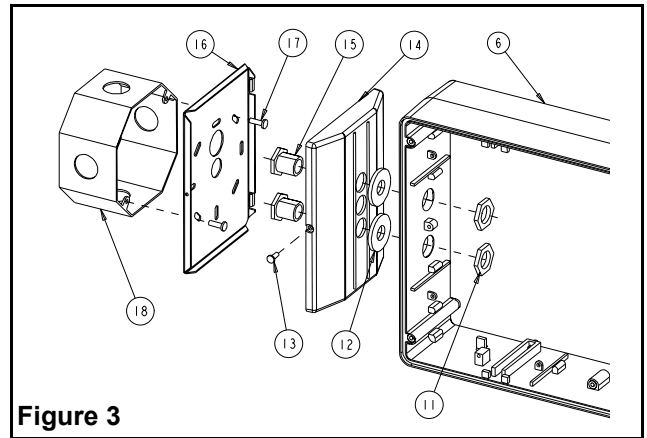

Figure 3
- h. Determine which holes in the exit frame will be used for mounting (see fig.1 & fig.3). Support frame by two blocks of wood, maximum one inch apart. Strike knockouts with a hammer and screwdriver. Clear holes of burrs to allow proper assembly of nipple/wire assembly.
- i. Secure canopy to the frame using the provided nipple/wire assembly. Make sure the gasket washers are between the canopy and frame, and the nuts inside the exit sign (see fig. 3).